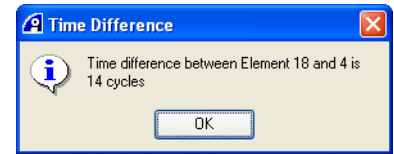

Figure 9-4 Time measurement from selected line dialog box
3. Select **Time Measure from Selected...** from the context menu to open the Prompt dialog box. Figure 9-4 shows an example: